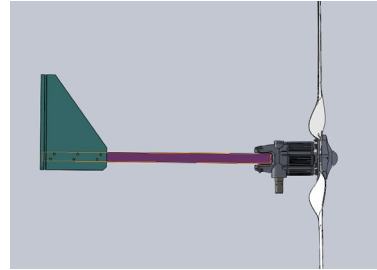

Figure 12
2. Take apart the tail rod pre-lock screw and install the tail rod, the direction as shown in Figure 12, the screw is assembled from the top and down and lock tightly with nuts.